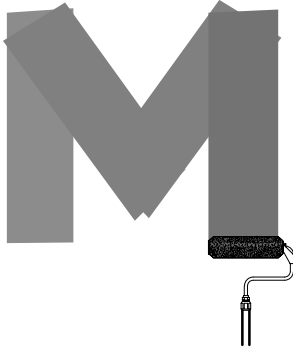

Fig. 2
1. Rolling vertically, roll out the letter "M". (Fig. 2.)